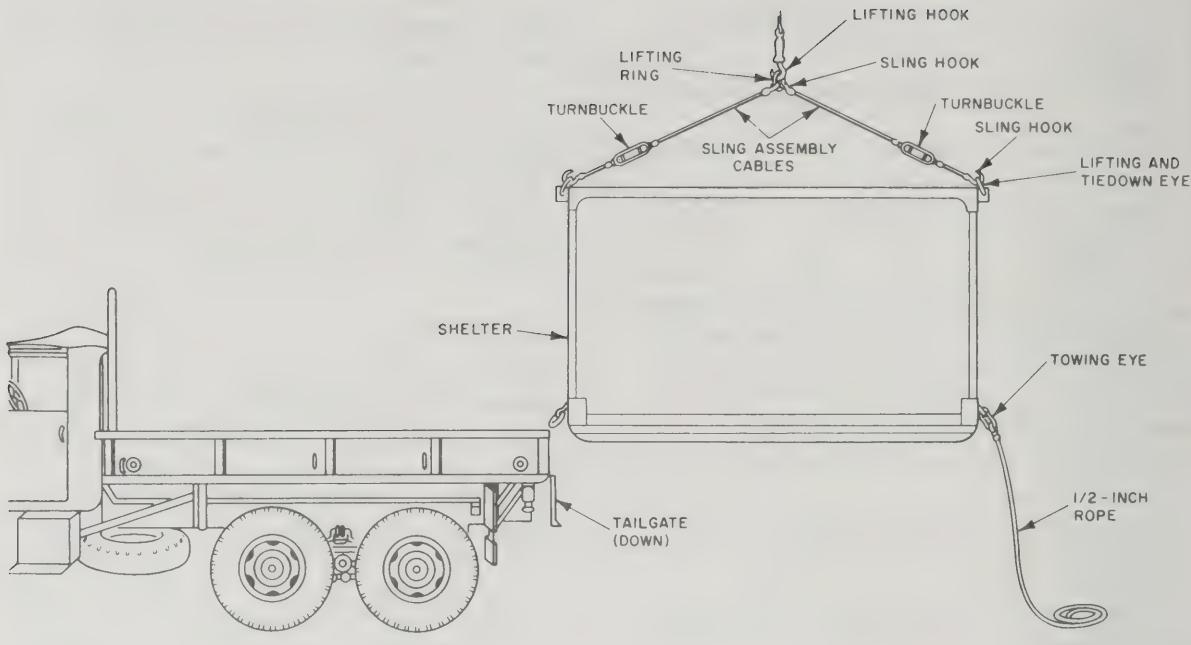

Figure 2-2. Lifting and loading AN/TTC-23 on truck.
a. Lifting and Loading (fig. 2-2). If the